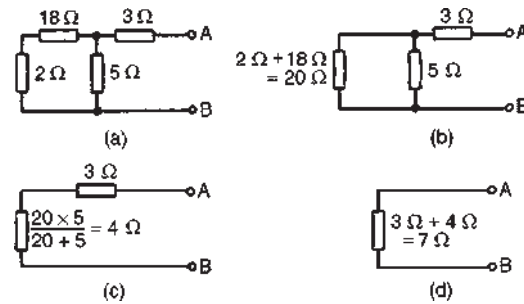

Figure 13.32
- (iv) The resistance 'looking-in' at terminals AB in Fig. 13.32(a) is obtained by reducing the circuit in stages as shown in Figures 13.32(b) to (d). Hence the equivalent resistance across AB is 7Ω .